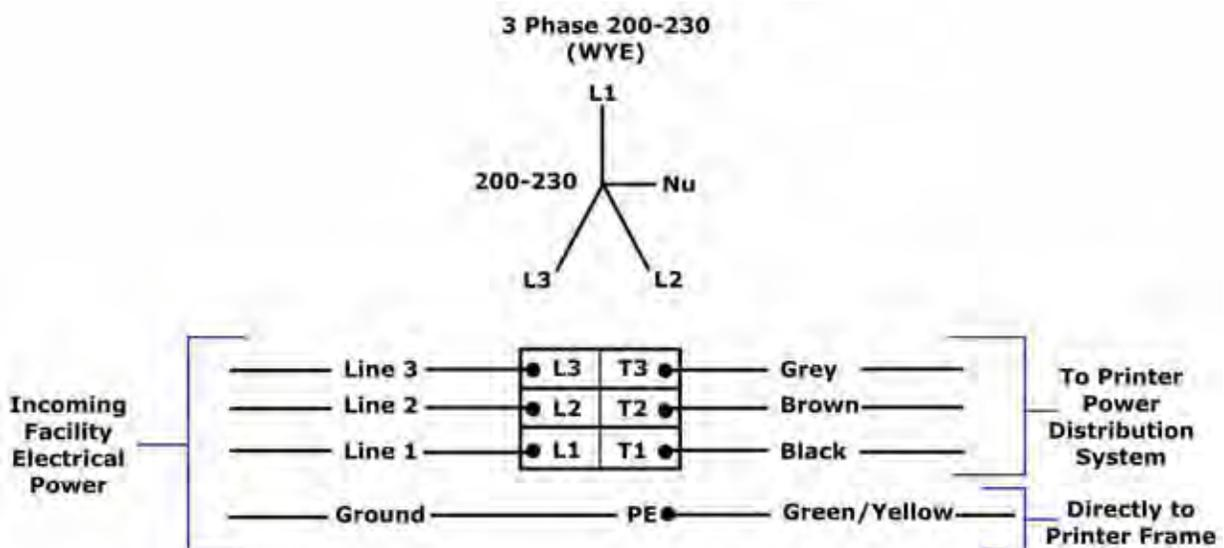

Figure 1-4: AC input diagram
- 400 - 208 VAC $\pm 10\%$, 50A, 60 Hz, three-phase, Figure 1-4